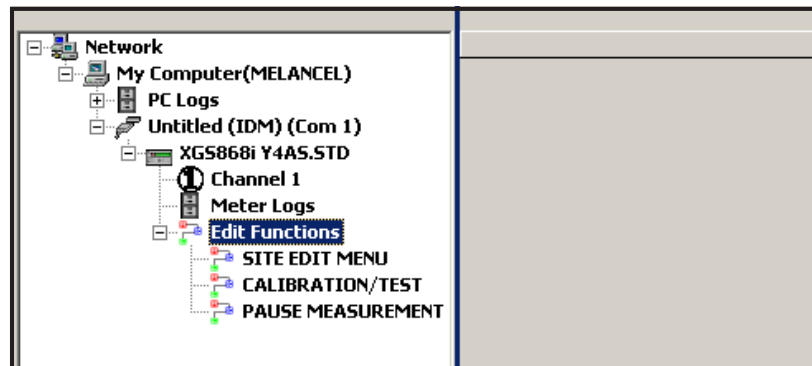

Figure 9: Menus in the *Edit Functions* Option
4. Expand the *Edit Functions* option. The window now appears similar to that shown in Figure 9.